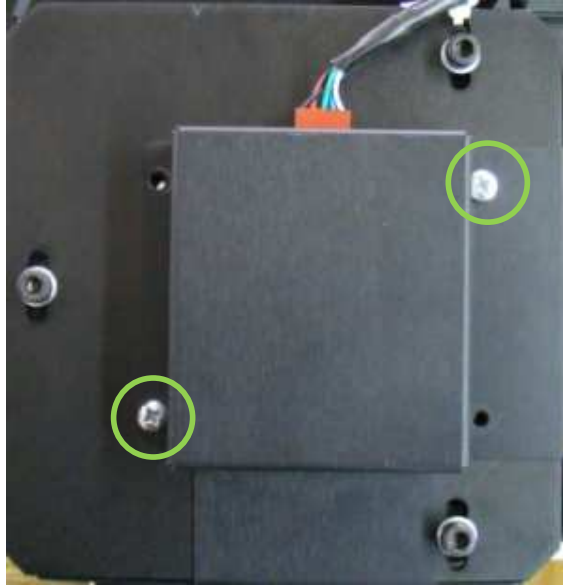

Figure 13.1-1
- Release two M3 screws from the encoder cover (Figure 13.1-1).